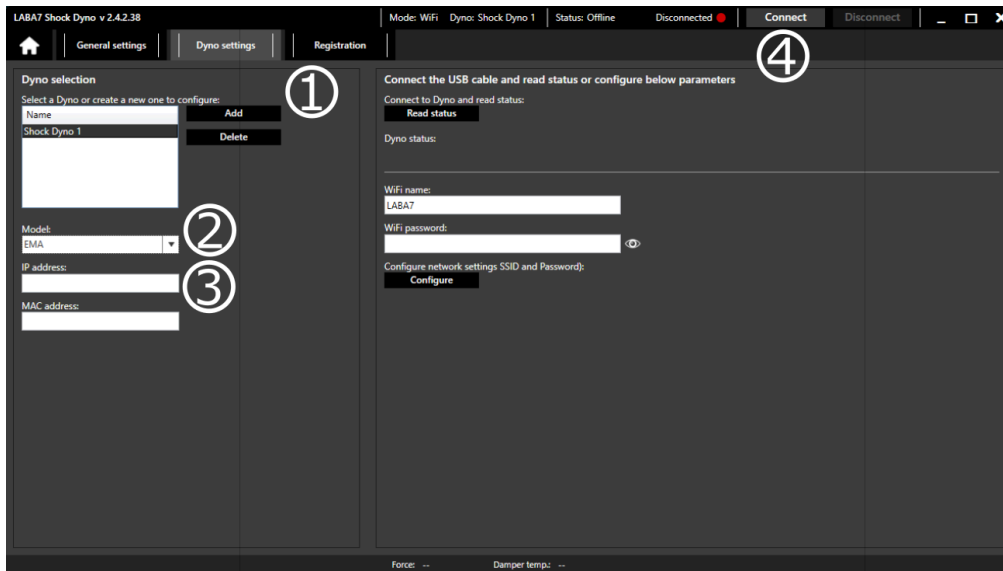

Figure 12
4. Add a new Dyno model by clicking Add button (Figure 12 – Step 1).
7. Select Model: EMA (Figure 12 – Step 2).
8. Enter the IP address of the device. The IP address is shown on the screen of the power supply (Figure 12 – Step 3).
9. Press **Connect** (Figure 12 – Step 4). **Connected** status indicates, that the connection is successful.